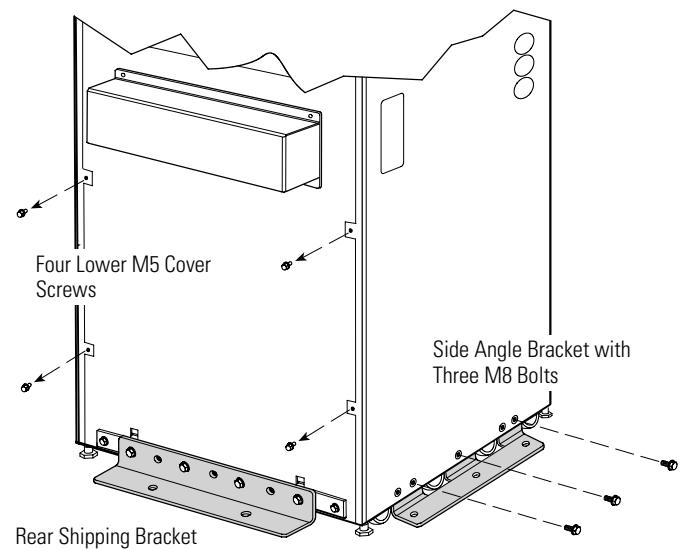

Figure 2. Installing the Brackets
3. Attach the front and rear shipping brackets to the cabinet using the retained hardware from the shipping pallet (see Figure 2).
4. From the cabinet rear panel, remove the two lower M5 cover screws on each side (see Figure 2). Retain the screws.
5. Insert the side angle bracket behind the base as shown in Figure 2. Insert three supplied M8 bolts, but do not fully tighten.